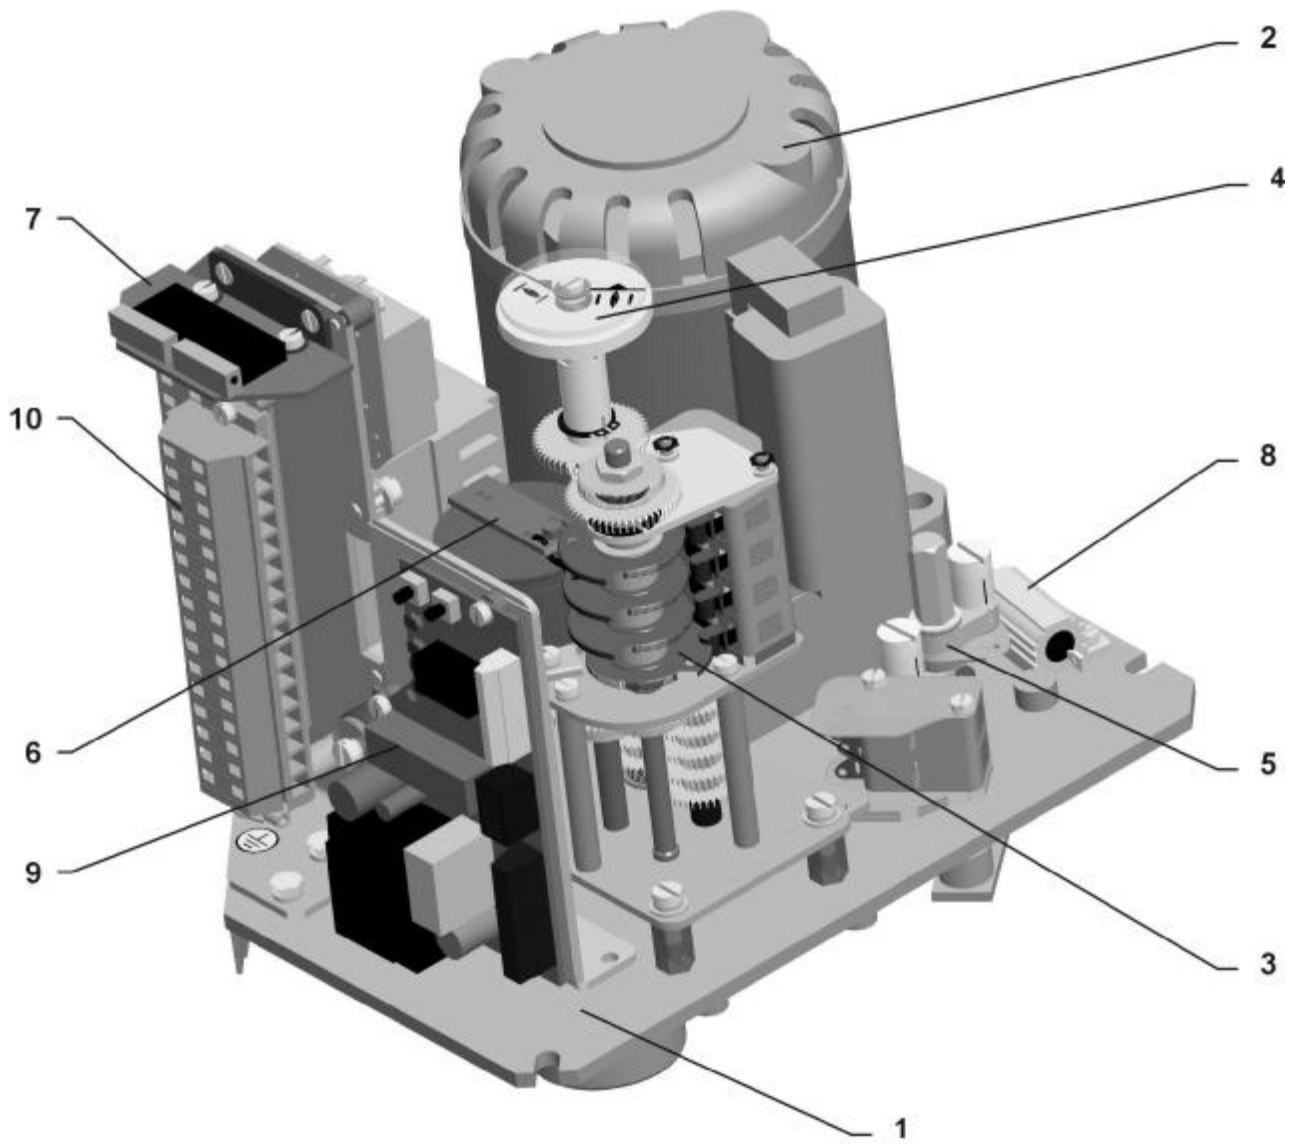

Fig.1
The control part (Fig. 1) is located on the control board (1), which contains:
- an electric motor (2) (for the single-phase version it is with a capacitor)
- a torque unit (5) – controlled by axial motion of a worm gear
- a position-signalling unit (3) with a position transmitter (6) - resistive , capacitive or an electronic position transmitter (7) and with a mechanical local position indicator (4)
- a space heater with (8) with thermal switch.
- electric connection is realised using **terminal boards** (10) (located in the control area) and cable bushings, or **connector** with cable bushings